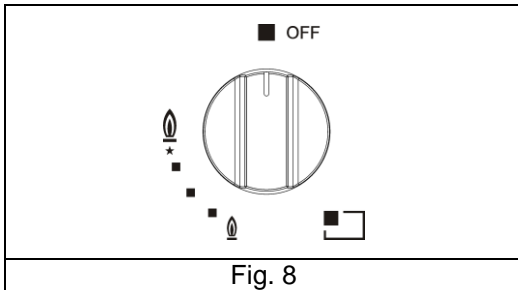

Fig. 8
1. Switch on the burner and turn the relative knob to the "Reduced rate" position (small flame fig. 8 page 11).
The knobs of the burners are equipped with a safety cut-off device. They must be turned in a counter-clockwise direction until they reach the full-on position (large flame icon, Fig. 8) and come to a stop. Now push down on the knob. The burner should ignite in 2 or 3 seconds. Keep the knob depressed as you turn it toward the reduced rate position (small flame icon, Fig. 8) to adjust the flame. Should the flame accidentally go out, turn the burner control knob off and wait at least 1 minute before attempting to light it again.
- When the pan comes to a boil, set the knob to a reduced rate position (small flame icon, Fig. 8).
- Burners will only ignite when the corresponding knob has been set to the Full-on position (large flame icon, Fig. 8).